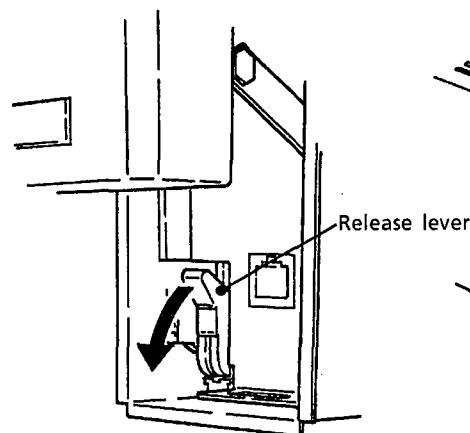

Figure 4.6 Removing the Internal Unit 1
- ① Swing up the front panel (see Section 4.2 “Swinging the Front Panel Up and Down”).
- ② Pull down the release lever (see Figure 4.6). The connector part at the back comes off, and the power of the internal unit is turned off.